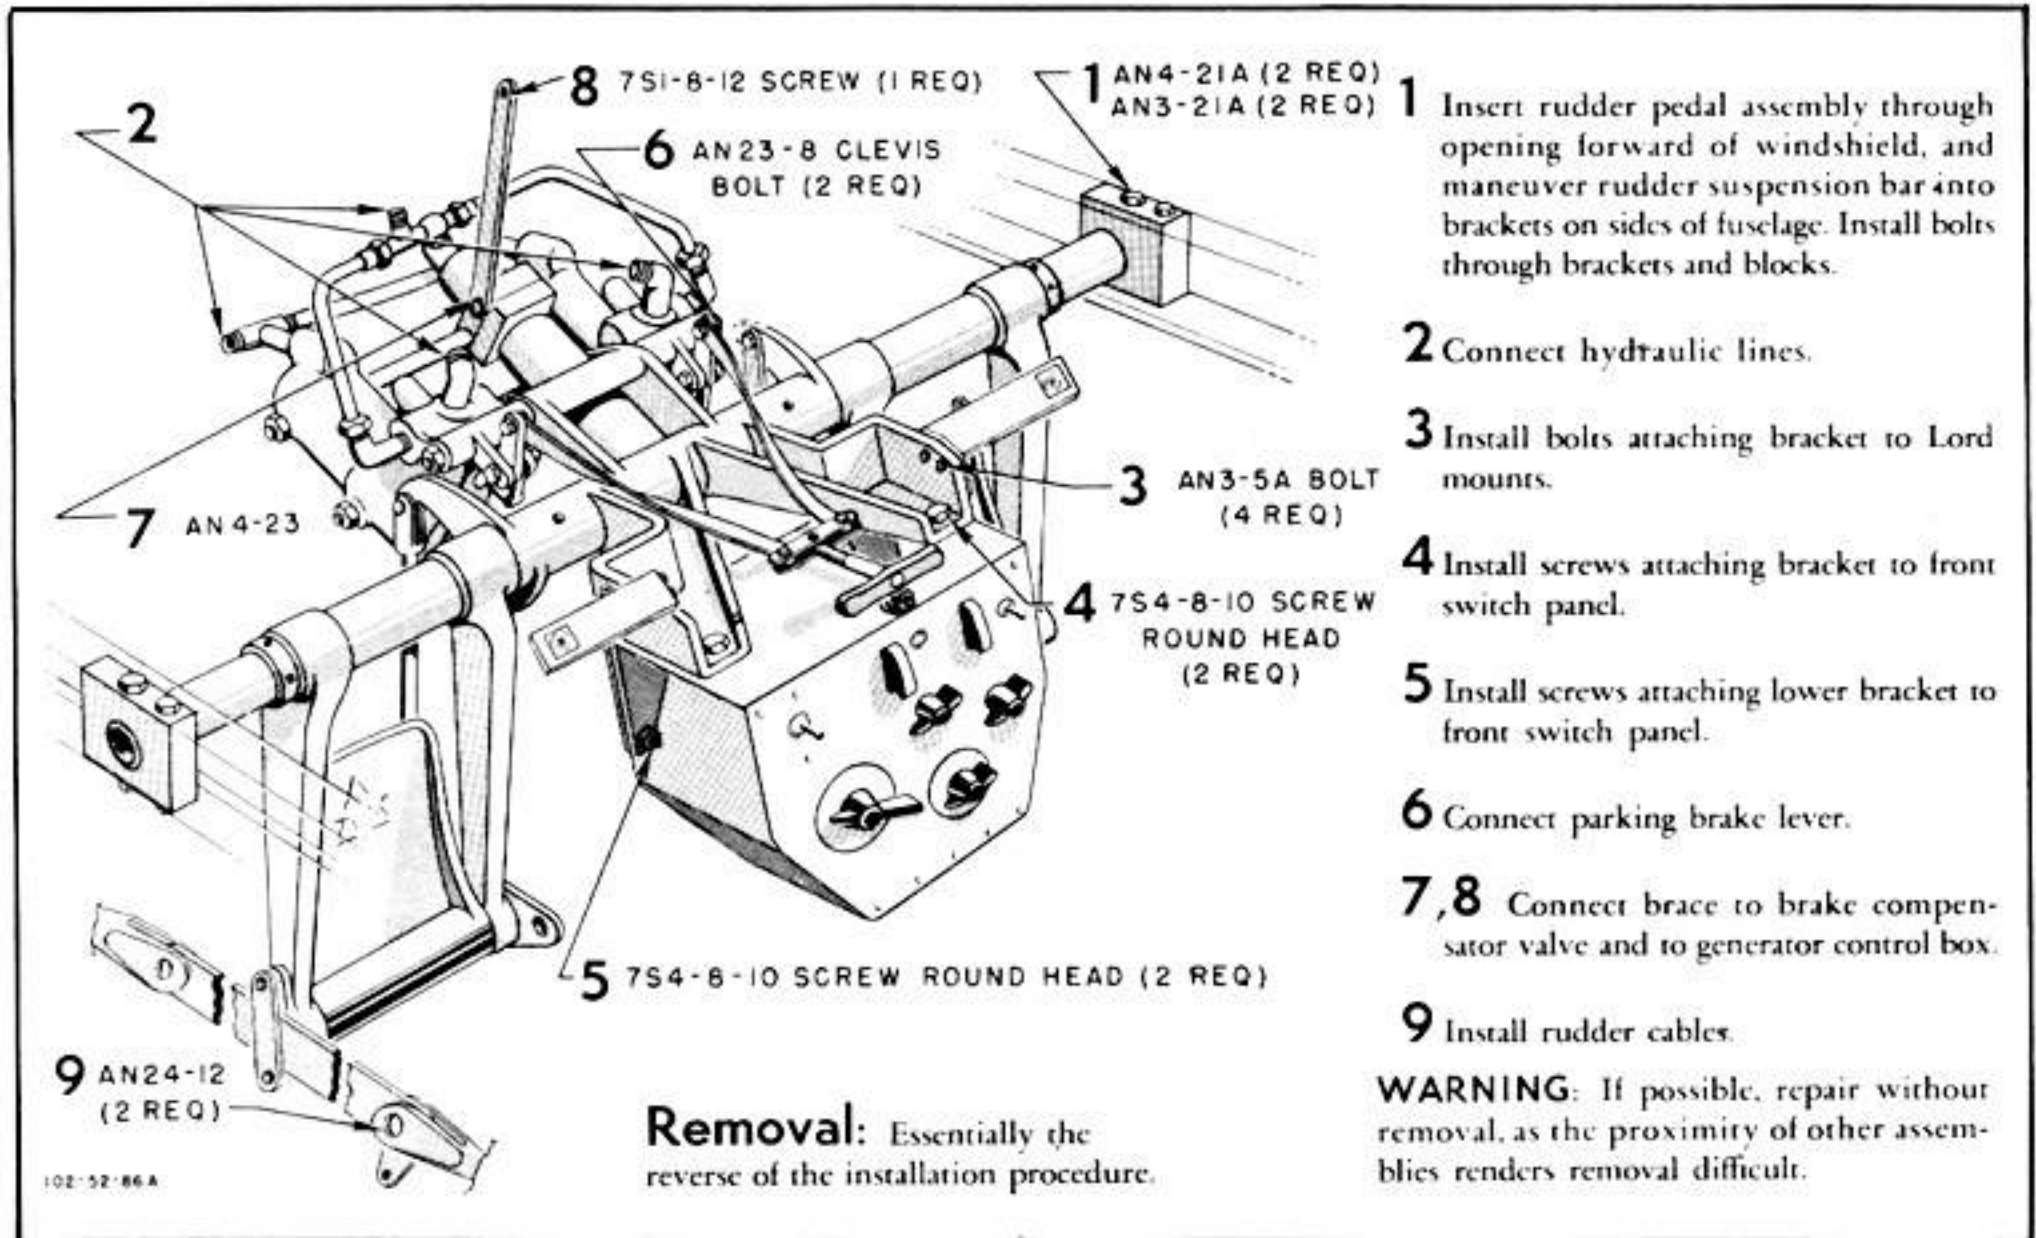

Figure 110—Installing Rudder Pedal Assembly
(1) DESCRIPTION.—A hanging-type rudder pedal assembly is suspended by two blocks bolted to brackets on each side of the fuselage. The pedals are adjustable for leg length by means of a spring-loaded release on the inboard side of each pedal.
(2) INSTALLATION AND REMOVAL OF RUDDER PEDAL ASSEMBLY. (See figure 110.)